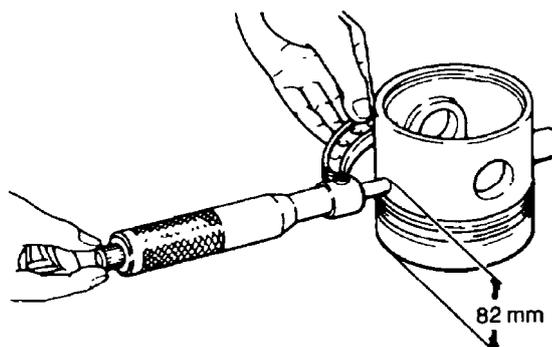

Figure 30 Measuring the Piston Diameter
- y. Measure the diameter of the piston using a micrometer. Place the pistons upside down on a work bench, position the micrometer 82 mm up from the crown and at 90 degrees to the centreline of the gudgeon pin bore and measure the diameter (Figure 30). Subtract the diameter of the piston from the inside diameter of the corresponding cylinder liner to obtain the piston to cylinder liner clearance. The clearance limit is 0.057 to 0.075 mm (0.0022 to 0.0030 in). If the clearance exceeds the limits, replace the piston and the cylinder liner as a matched set.